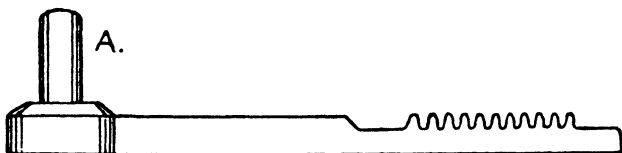

FIG. 143.
Each cover has a flange or projection on the bottom of the inside with a hole to take the stop piece or pivot. To assemble the case the pivot on the end of the runner shown in Fig. 143 (A) fits in the hole at the bottom of the inside of case. The pivot on the opposite runner